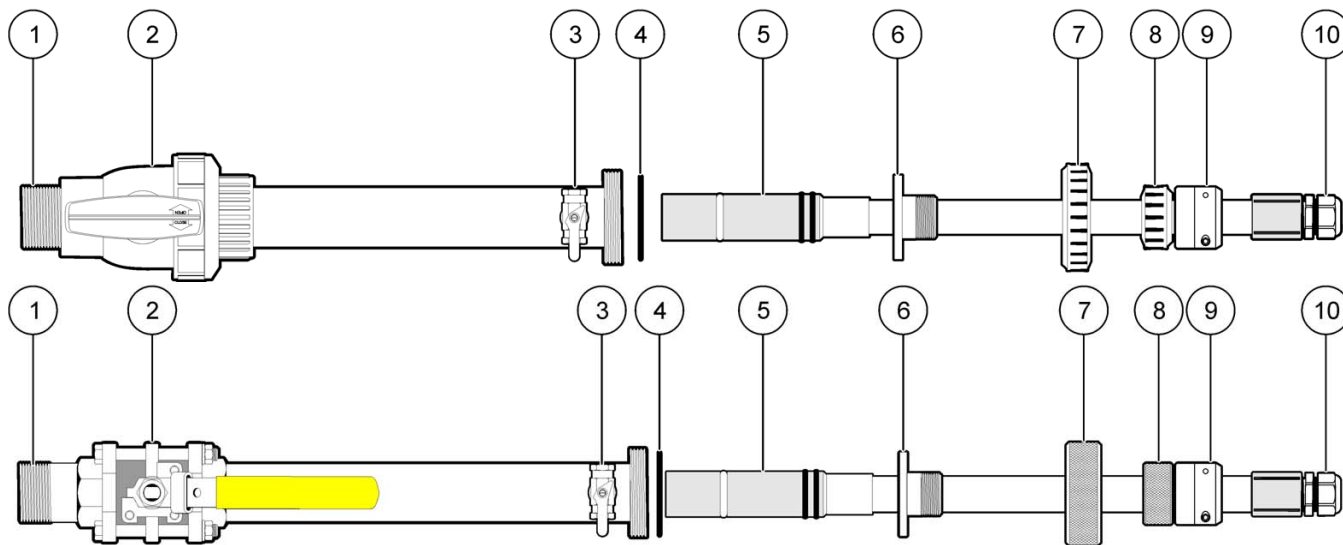

Figure 1 CPVC and Stainless Steel Insertion Mounting Hardware
2. Loosen the allen head/phillips head cap screws on the retaining clamp and unscrew the retaining cap. See Figure 1.
3. Unscrew the lock ring to remove the insert/extract shaft assembly from the assembled insertion hardware. See Figure 1.
1. Apply Teflon tape to the 1-½ inch NPT nipple to avoid leaks (see Figure 1).